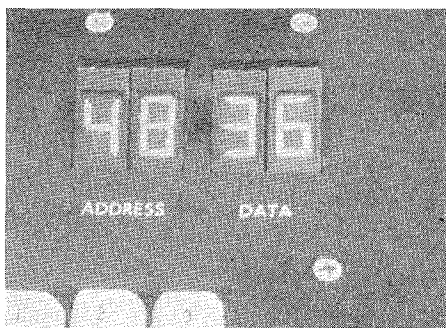

Fig. 5 The “seven segment” display. All numbers look square.
2. The "seven segment" display. (See Figure 5.) This display can also be made of seven gas discharge elements, but usually uses incandescent filaments. MSI devices are available for these, also—BCD in, seven lamp driving outputs, and logic to light up the right ones.